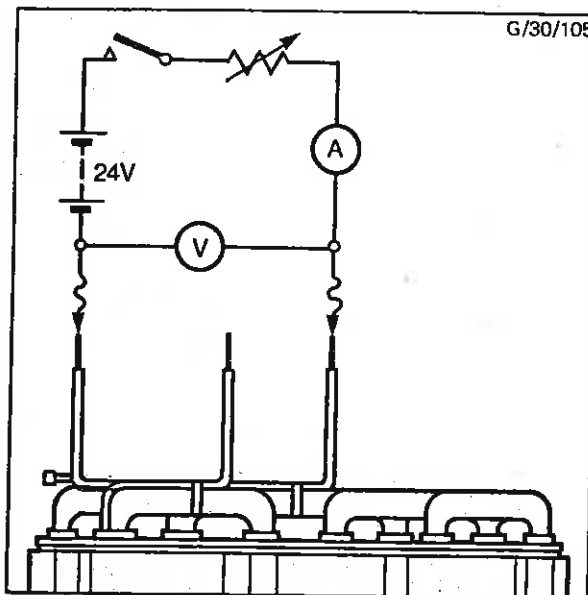

Fig. 66 - Testing Stator Coils
3. Wire a test circuit consisting of 24V battery, ON/OFF switch, variable resistor, ammeter and voltmeter across two of the stator leads as shown in Fig. 66.